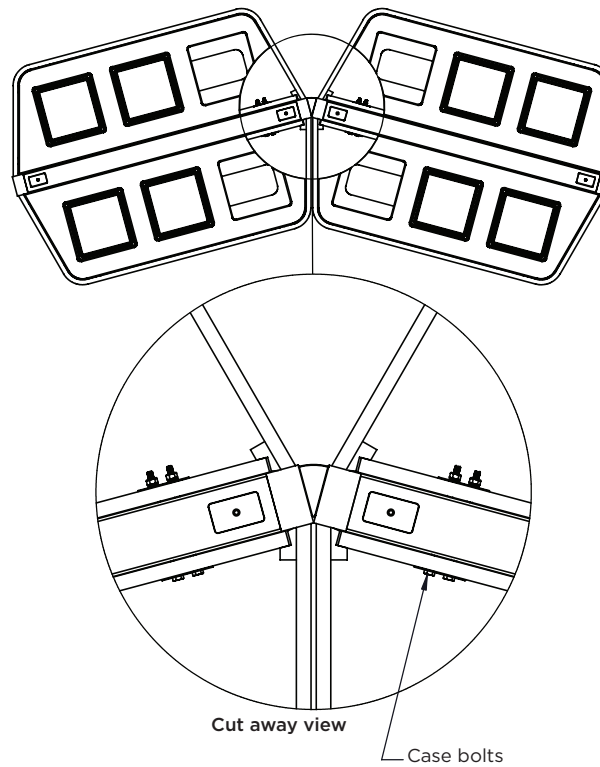

Figure 5H
5. If additional adjustment is needed to align the case edges, the case bolts (**Figure 5H**) can be loosened for alignment. These case bolts must be tightened after adjustment.